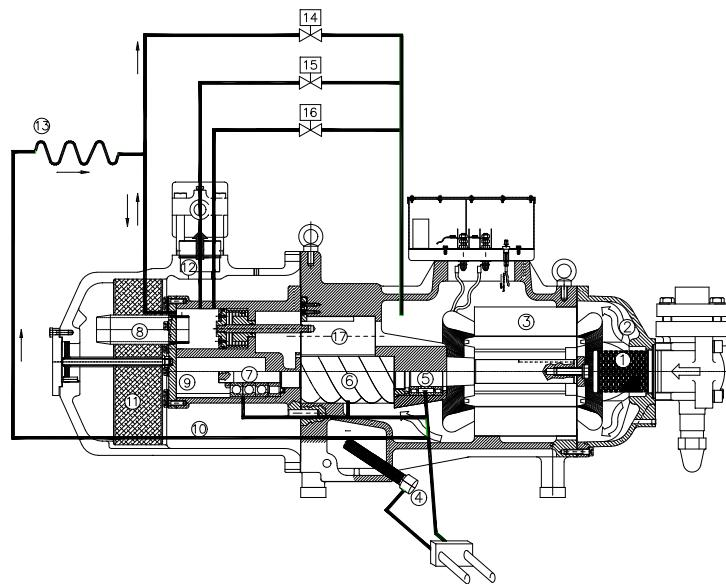

Fig. 15: step capacity control oil circuit
The cylindrical chambers that house the screw rotors are fitted with a longitudinal port, whose connection with the suction side is regulated by the position of the slide valve (17), see Fig. 15. When the slide valve completely closes the above mentioned port, the effective compression length is maximum and coincides with the entire length of the rotors; when, on the other hand, the valve moves towards the discharge and the opening expands longitudinally, the effective working length of the rotors is reduced and as a consequence a smaller quantity of gas is processed. As a result, adjusting the volume taken in by the rotors make it possible to control the mass flow processed and definitely the cooling capacity generated by the compressor.
In the configuration with 4 steps the slide valve automatically returns to the position of minimum capacity after the compressor stops. In fact due to the pressure difference the oil can flow out of the cylinder to the crankcase through the pipe marked by number 20, see Fig. 15. Therefore the compressor can start again at the minimum capacity.